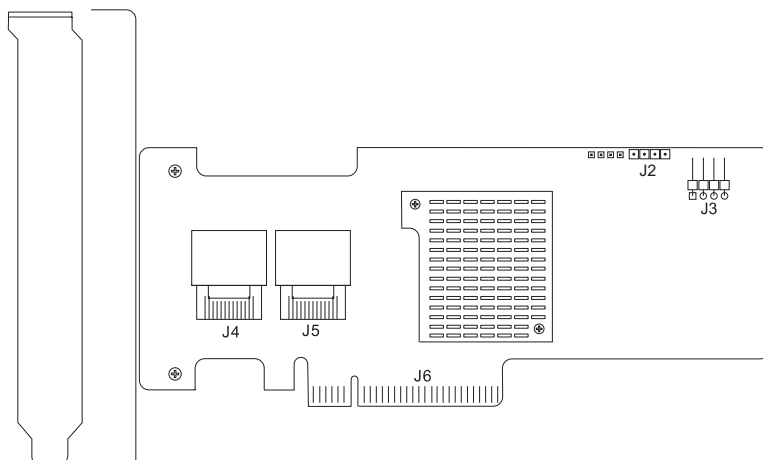

Figure 1. Controller connectors
8. Connect the controller to the SAS and SATA III devices in the server. Use SAS cables to connect the controller to SAS and SATA III devices. See Figure 1 on page 3 for the connector locations.